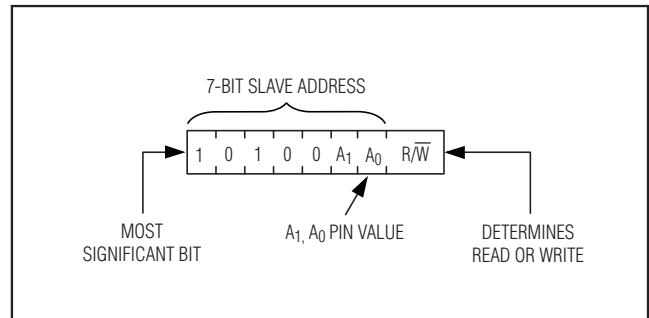

Figure 10. DS3882's Slave Address Byte
**Slave Address Byte:** Each slave on the I2C bus responds to a slave addressing byte sent immediately following a start condition. The slave address byte (Figure 10) contains the slave address in the most significant seven bits and the  $\overline{R/W}$  bit in the least significant bit. The DS3882's slave address is 10100A1A00 (binary), where A0 and A1 are the values of the address pins (A0 and A1). The address pin allows the device to respond to one of four possible slave addresses. By writing the correct slave address with  $\overline{R/W} = 0$ , the master indicates it will write data to the slave. If  $\overline{R/W} = 1$ , the master will read data from the slave. If an incorrect slave address is written, the DS3882 will assume the master is communicating with another I2C device and ignore the communications until the next start condition is sent.